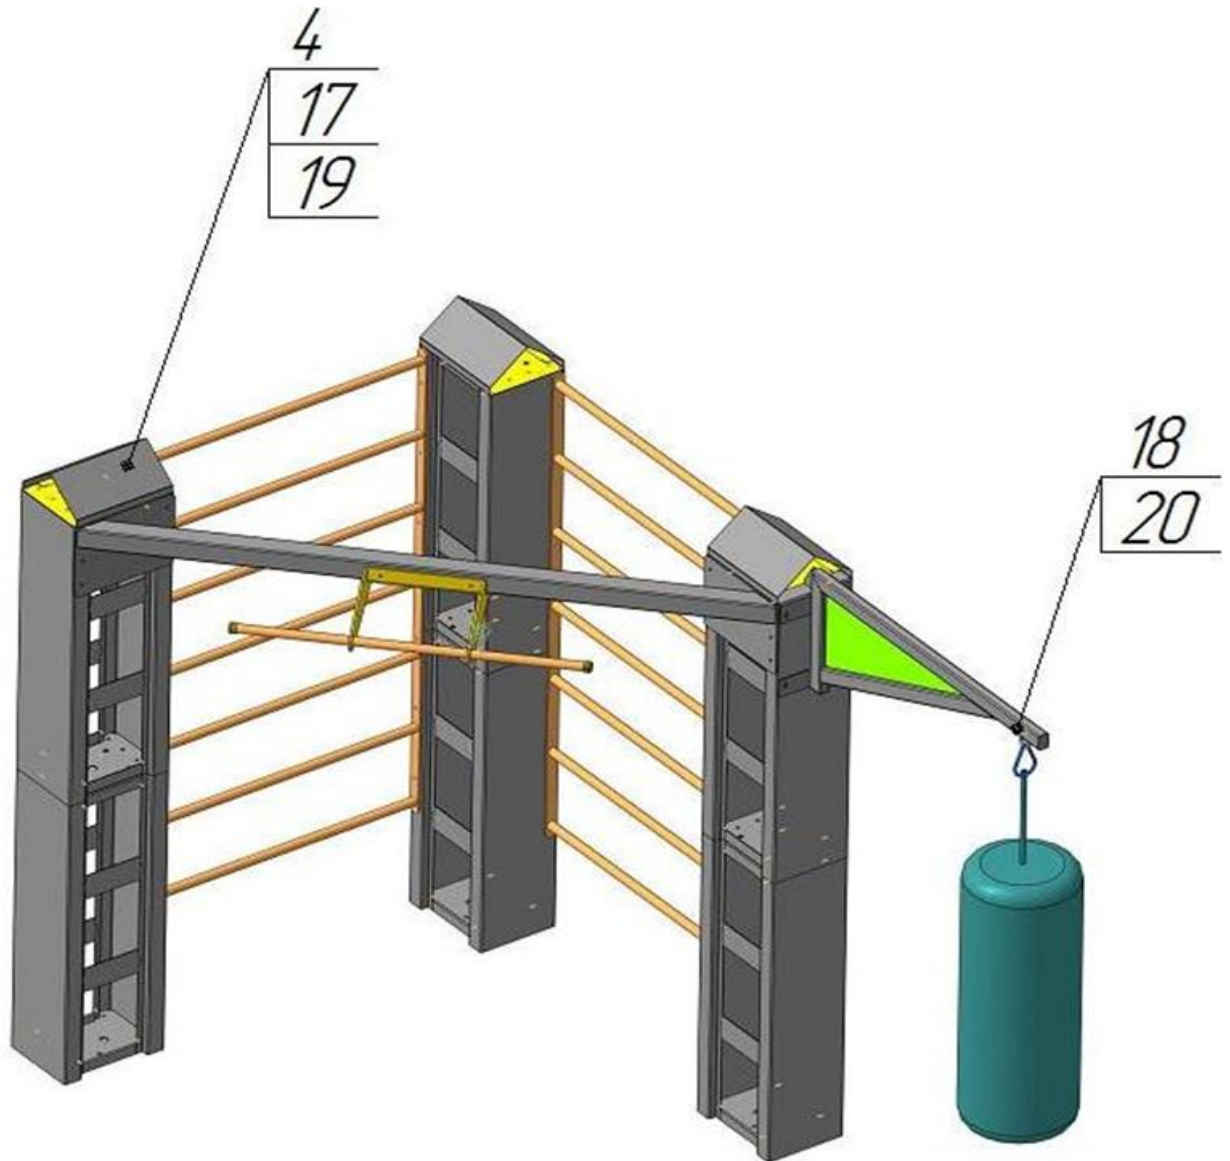

Fig. 4
- 3.8 Install the equipment included in delivery according to Fig.4.